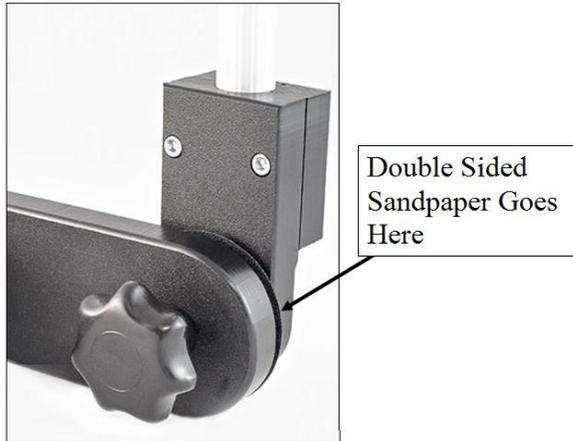

Figure 7
**Place the double sided sandpaper disk over the T bolt inserted in Step 3. Slide the T bolt into the pivot hole in the Fixed Arm and attach a knob to the bolt. (Figure 7) Tighten it with the assembly in the upright position.**